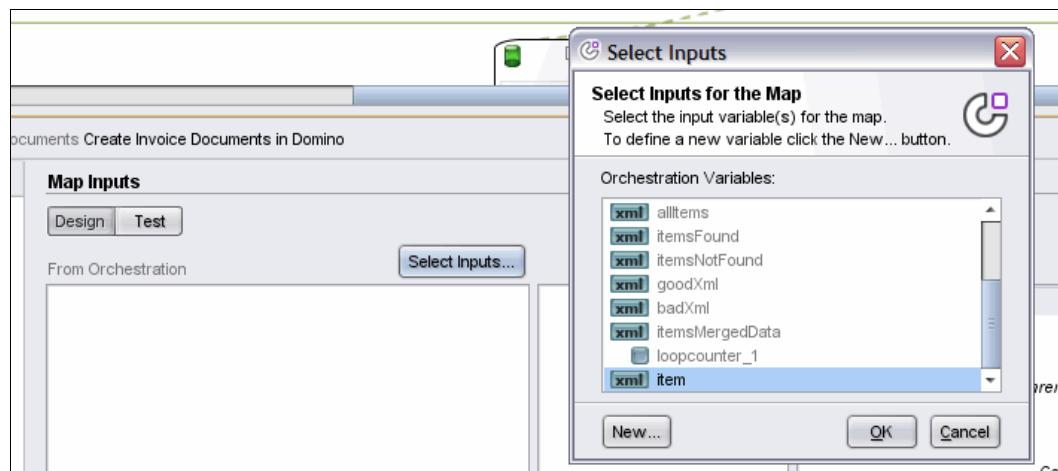

Figure 12-68 Selecting input variable
4. Select **Map Inputs** in the Checklist pane. Click **Select Inputs**. Select the variable item from the Select Inputs window, and click **OK**, as shown in Figure 12-68.